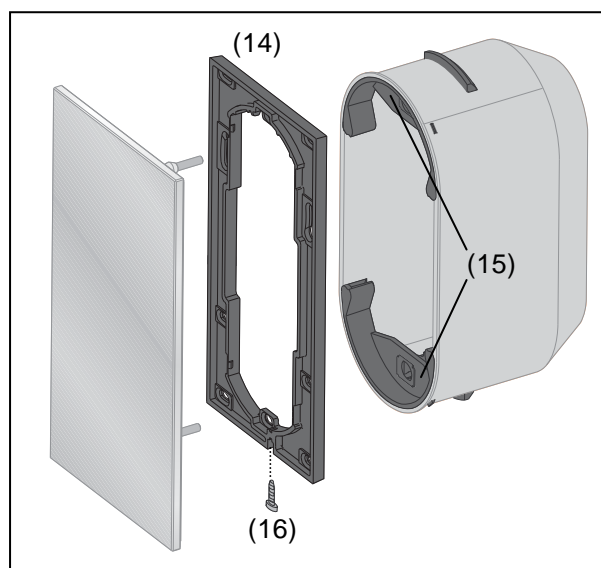

Figure 7
- If the adapter ring is to be screwed to the wall box, pry the clamp spring supports (Figure 7, 15) out of the wall box.
- Align the adapter ring (Figure 7, 14) and screw it to the wall box. The marking **TOP** on the inside of the adapter ring must be at the top. For fastening to the wall with screws, use the supplied set of screws and wall plugs.
- ❶ The engagement on the adapter ring is only a preliminary fastening. Additional fastening using the anti-dismantling protection is necessary for operation.
- Tighten the screw (Figure 7, 16) at the bottom of the adapter ring. Use a Pozidrive-type Phillips screwdriver, size 0.
- Align the adapter ring (Figure 7, 14) and screw it to the wall box and the wall. The marking **TOP** on the inside of the adapter ring must be at the top. Use the supplied set of screws and wall plugs.
- If necessary remove the screw (Figure 7, 16) at the bottom of the adapter ring. Use a Pozidrive-type Phillips screwdriver, size 0.